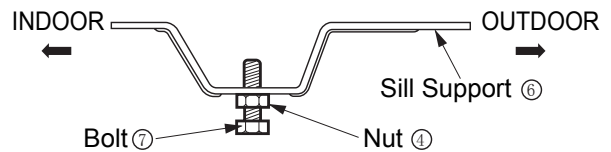

Fig. 3
3. Cut the window sash seal to the proper length. Peel off the backing and attach the Foam-PE to the underside of the window sash. (Fig.3)
3. Loosely assemble the Sill Support ⑥ using the parts . (Fig. 3)